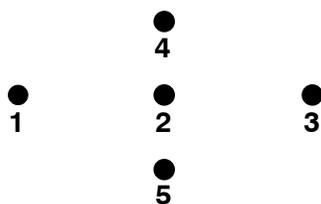
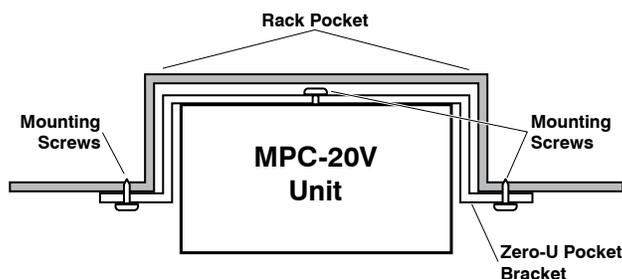

Figure E.1: Mounting Holes; MPC-20V Back Panel
Figure E.6: Zero-U Pocket Brackets (Cross Section; Nested in Pocket)
- c) **MPC-20V Series (Vertical) Units:** The "L" brackets can either be attached to the back or side of the unit, and the unit can also be installed to face the front, rear, or either side of the equipment rack. Each end of the MPC features seven screw holes for attaching the brackets, this allows you to mount the brackets on either side of the unit, and in one of two possible positions on the back. When mounting the brackets on the back of the unit, use screw holes 1 and 2 or 2 and 3 as shown in Figure E.1. Use two screws (supplied with the bracket) to secure one bracket to the top of the MPC and the second bracket to the bottom of the MPC.
- b) Locate the screw holes for the Mounting Buttons on the MPC-20V back panel. There are two screw holes at the top of the back panel and two holes at the bottom. Note that the screw holes for the Mounting Buttons are not the same holes shown in Figure E.1; the Mounting Button screw holes are located at the top of the unit, directly above the screw holes shown in Figure E.1, and at the bottom, about three inches below the holes shown in Figure E.1.
- b) Each end of the MPC features seven screw holes for attaching the brackets, this allows you to mount the brackets on either side of the unit, and in one of two possible positions on the back. When mounting the brackets on the back of the unit, use screw holes 1 and 2 or 2 and 3 as shown in Figure E.1.
The Zero-U Pocket Brackets allow you to mount MPC-20V series units in APC® style racks, that include a pocket or channel for zero unit mounting as shown in Figures E.6 and E.7.
- b) Insert the screws supplied with the bracket into the three holes in the center of the Zero-U Pocket Bracket and then thread them into holes 4, 2 and 5 (see Figure E.1) on the back of the MPC-20V unit as shown in Figures E.6 and E.7.
2. **Attaching the Zero-U Pocket Brackets to the Equipment Rack:** Align the MPC with the rack pocket and then use appropriate retaining screws to secure the Zero-U Pocket Brackets to the rack pocket as shown in Figures E.6 and E.7.